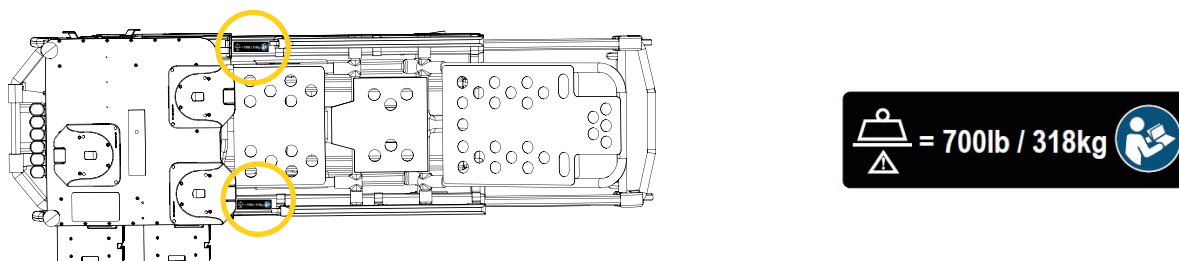

Figure 50: Safe Working Load (SWL) label
23. Place a Safe Working Load (SWL) label between the mobile structure and XTPA-PPXT Rail System, on both sides of the stretcher (Figure 50).